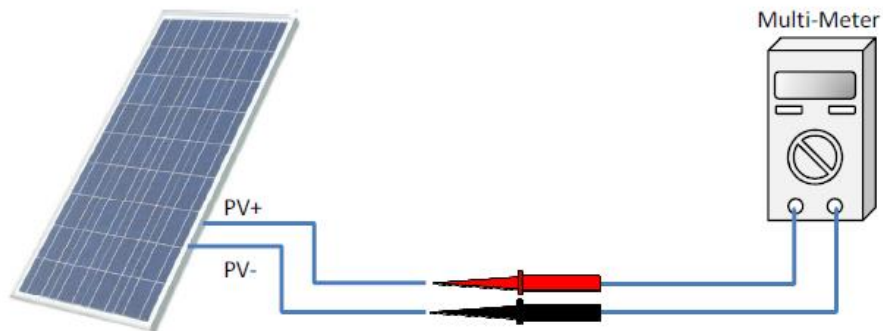

Figure 4-9 Polarity Check
3. Check the polarity (Figure 4-9) before terminating the DC cables of the PV strings according to the following steps: